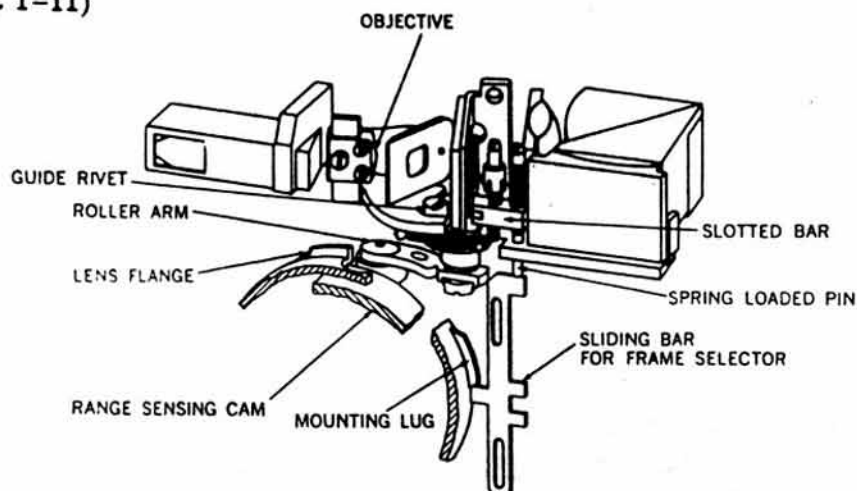
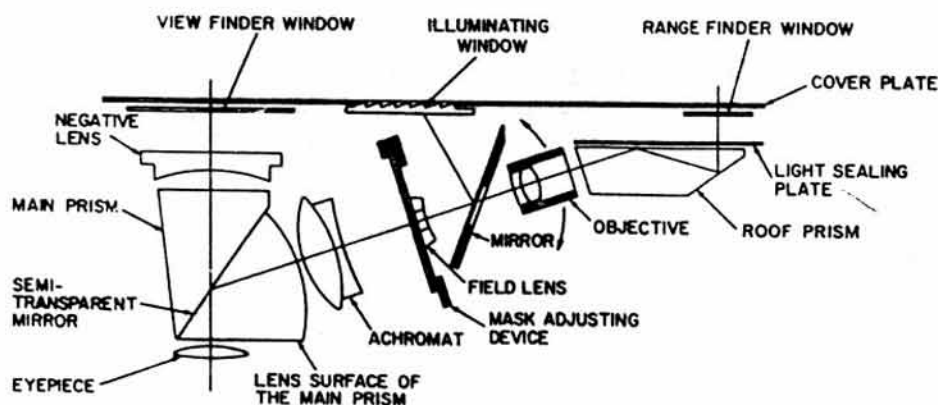

Figure 1-11. Range-Viewfinder, Mechanical Schematic.
Figure 1-12. Range-Viewfinder, Optical Schematic.
(Fig. 1-11)
a. Rangefinder (fig. 1-12)
Basically, the rangefinder is optical triangulization of fixed and movable images of the subject being photographed. The fixed image is the viewfinder image, and the movable image is controlled by a swinging objective lens. A cam on the camera lens focusing mount, through the rangefinder roller arm, transmits the focusing movements to the rangefinder objective lens (fig. 1-11). When the two images coincide, the lens is correctly focused.
- (1) *Optical system.* Rays from the subject enter the fixed roof prism and are inverted. They pass through the objective lens, the mirror aperture, and an opening in the field lens, and are focused in the plane of the bright-line frames. An opening in the center of the metal mask permit formation of an aerial image. The image is viewed through the eyelens, and combines with the viewfinder image in the beam-splitting prism.
- (2) *Mechanical functioning* (fig. 1-11, 26). As the lens focusing mount is rotated, a cam on its rear surface, actuates the rangefinder roller arm. A cam on the upper part of the roller arm axel (23) fig. 26 moves the objective lever assembly through an arc. The swing of the objective lens changes the angle between the images. The objective lever assembly is spring loaded and mounted on ball bearing pivots (8).
b. *Viewfinder* (fig. 1-12). The viewfinder system consists of an eyelens, main prism with semi-transparent mirror, and a negative lens. A parallax-adjusting bright-line frame assembly outlines the field of various lenses. Disassociated optically, but coupled mechanically, is a frame selector (fig. 1-11) permitting preview of the fields covered by the 35mm, 50mm and 90mm lenses.
(1) *Optical system* (fig. 1-12).
(2) *Mechanical functioning* (fig. 1-11, 27).
- (a) *Bright-line frame assembly.* The bright-line frames are contained between two cemented glass plates. The frame, corresponding to the lens mounted on the camera, is displayed in the viewfinder by the metal mask (7), fig. 27 which slides across the glass plate. The mask is actuated over a sliding bar (fig. 1-11), by one of the mounting lugs on the camera lens.
- (c) *Frame selector.* Fields covered by the different focal length lenses may also be displayed in the viewfinder by operating a frame selector on the front of the camera. The frame selector moves a bar (fig. 1-11) which actuates a spring-loaded pin. The pin, through a slotted bar and lever arrangement, moves the metal mask across the glass plate. When the selector is pushed toward the camera lens the 90mm frame shows in the viewfinder, and when pushed away from the lens the 35mm frame is shown. The 50mm frame is positioned when the frame selector lever is in the vertical position.